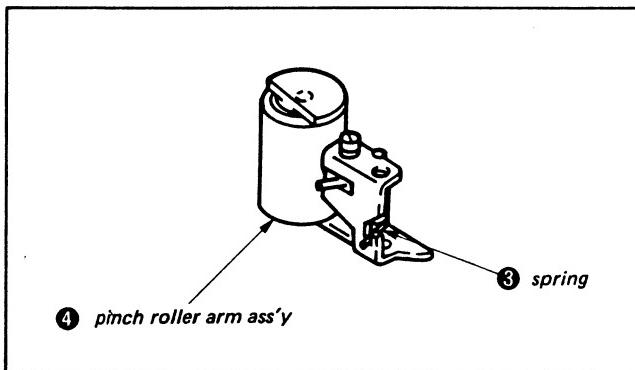
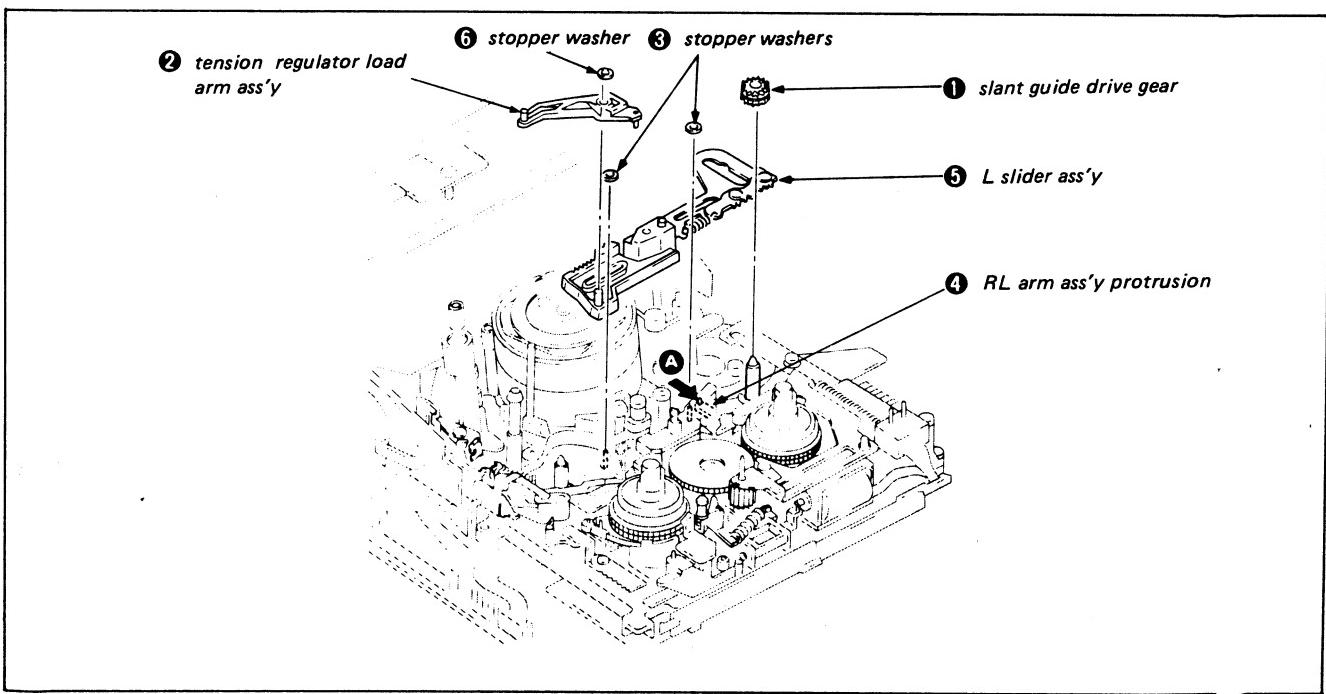
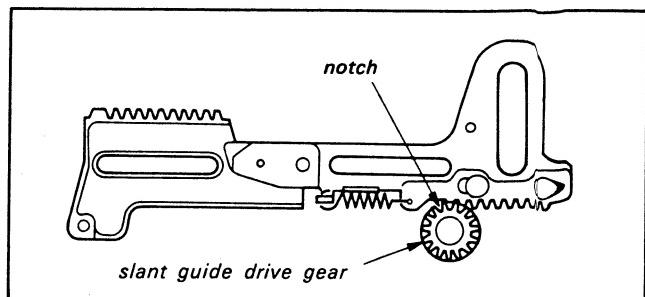
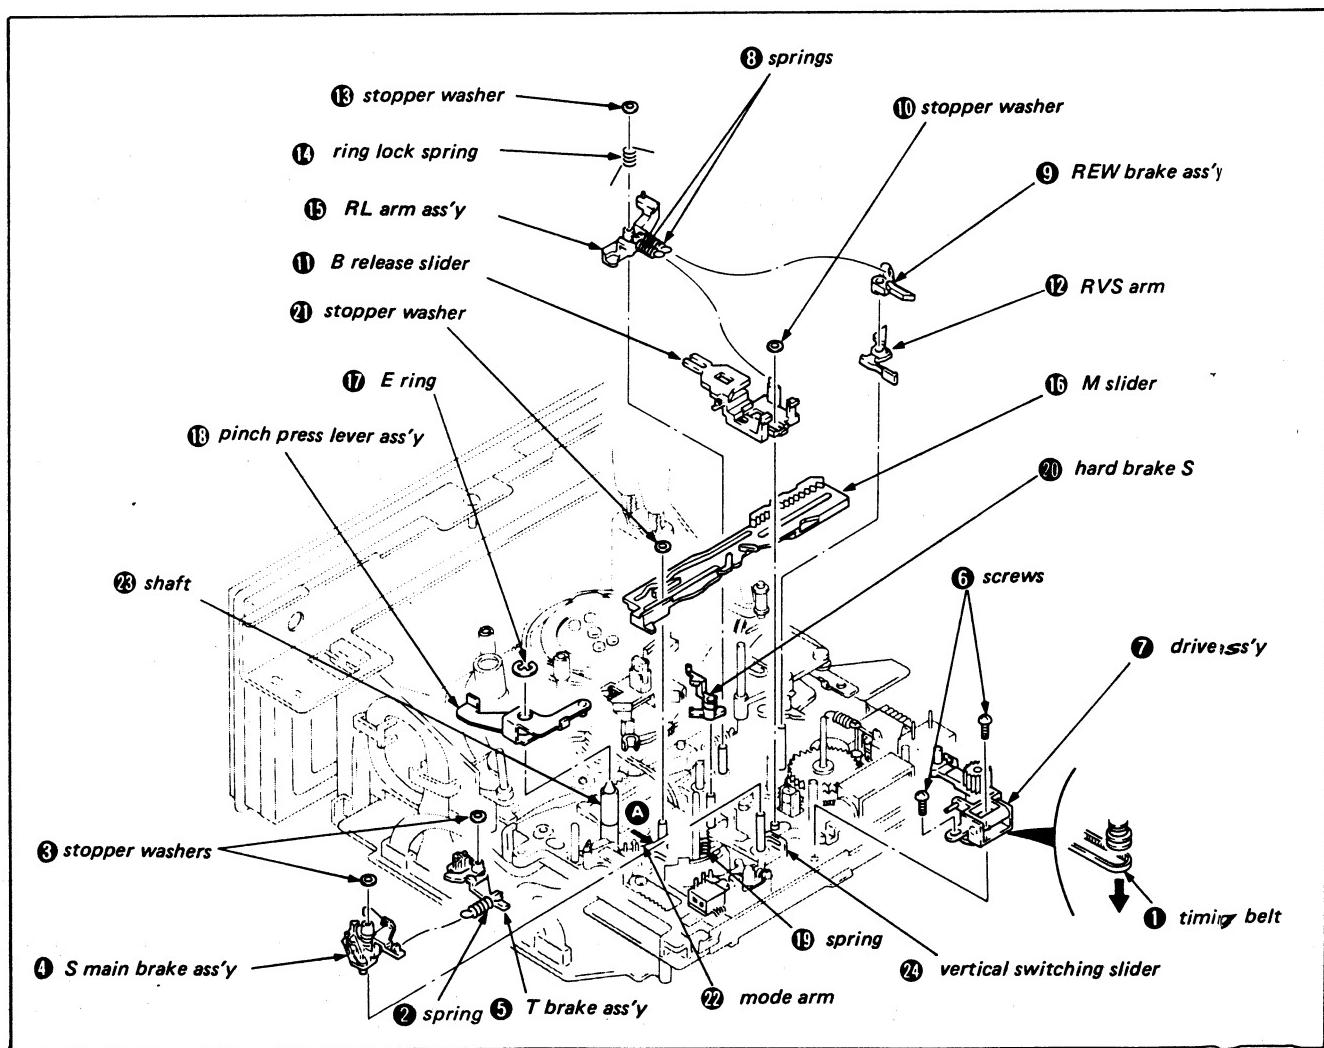

Fig. 3-15.
Fig. 3-26.
Fig. 3-28.
Fig. 3-36.
- 1) Position spring ③ (See Fig. 3-15)
Note: At this time, confirm the engagement position of the slant guide drive gear and L slider assembly gear. (Fig. 3-28)
- 6) Remove the two stopper washers ③.
- 7) Remove the L slider assembly ⑤ while pushing the RL arm assembly protrusion ④ in the direction of arrow A.
- 8) Remove the stopper washer ⑥ and the tension regulator load arm assembly ②. (Fig. 3-26)
- 2) Mount the tension regulator load arm assembly ② and the stopper washer ⑥. (Fig. 3-26)
- 3) Mount the L slider assembly ⑤ while pushing the RL arm assembly protrusion ④ in the direction of arrow A.
- 4) Put the tension regulator load arm assembly ② pin into the M slider groove. (See Fig. 3-15, M slider)
- 5) Mount the two stopper washers ③.
- 6) Refer to 3-4., 2. Mounting, 2), and place the tension regulator load arm assembly ② pin in the tension regulator arm assembly cam groove.
- 8) Engage the slant guide drive gear so that the notch is 1 tooth away from the L slider assembly left side tooth. (Fig. 3-28)
- 7) Remove the tension regulator load arm assembly according to 3-11., 1. Removal, 8). (Fig. 3-26)
- 8) Remove spring ②.
- 9) Remove the two stopper washers ③ and remove the S main brake assembly ④ and T brake assembly ⑤.
- 11) Remove the two screws ⑥ and the drive assembly ⑦.
- 13) Remove the two springs ⑧.
- 14) Remove REW brake assembly ⑨.
- 15) Remove stopper washer ⑩ and B release slider ⑪.
- 16) Remove RVS arm ⑫.
- 17) Remove stopper washer ⑬ and ring lock spring ⑭ and RL arm assembly ⑮.
- 18) Move the M slider ⑯ to the right (leave about 5 mm at the left.)
- 19) Remove the E ring ⑰ and the pinch press lever assembly ⑱.
- 20) Remove spring ⑲ and the hard brake S ⑳.
- 21) Remove stopper washer ㉑, push the mode arm ㉒ in the direction of arrow ㉓, and lift up the left side of the M slider ⑯ to remove. (See Fig. 3-36)
- 11) Push the M slider ⑯ all the way to the left.
- 14) Insert the drive assembly ⑦ horizontal shaft into the vertical switching slider ⑯ groove, and insert the protrusion on the RVS arm ⑫ into the notch in the drive assembly ⑦ and mount with the two screws ⑥.
- 15) Mount T brake assembly ⑤ and S main brake assembly ④. Mount the two stopper washers ③ and the spring ②. (See Fig. 3-36)
- 22) Mount the timing belt ①.